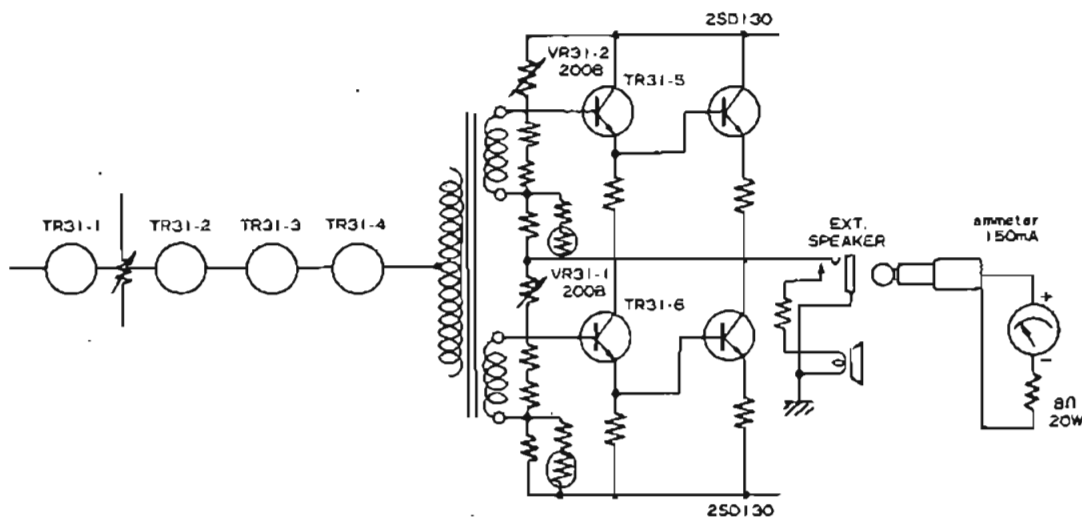

Fig. 1
- As shown in Fig. 1, connect the AM Meter (100 mA—150 mA scale) and a resistor (8Ω 20W) to the External Speaker Jack.